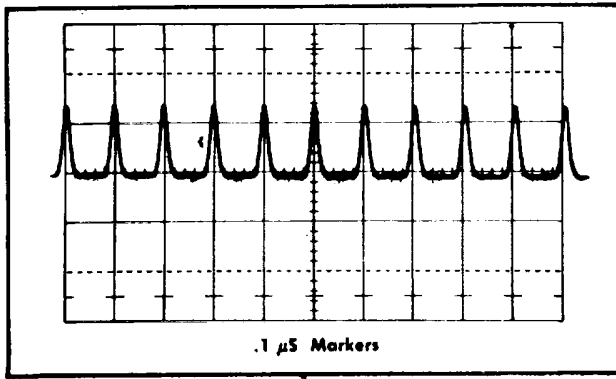

Fig. 6-8. Typical display of .1μS markers.
- b. Adjust the A Triggering Level control on the test oscilloscope for a stable display, then center the display on the graticule area with the vertical and horizontal position controls. See Fig. 6-8.